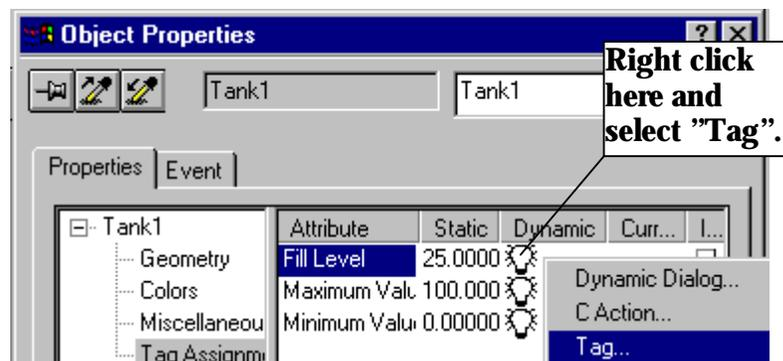

Figure 2.23 WinCC Project "QckStart"; Connecting a Tag
2. We want our "TankLevel" tag to drive the fill level of our tank. On the clear light bulb by "Fill level", right click and select "Tag". Refer to Figure 2.23.